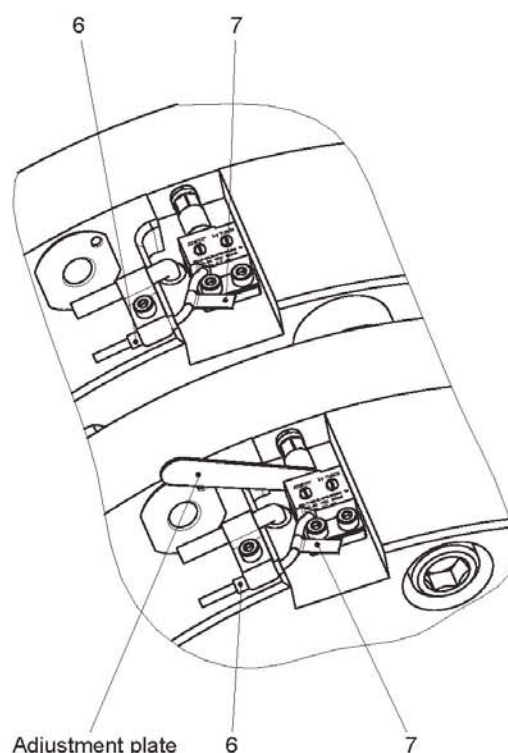

Fig. 2
1. Determine the thread diameter of the switching bolt (4).
2. Push the spring lock washer (5) onto the thread of the switching bolt (4).
3. Screw the switching bolt (4) into the armature disk (B) using a tightening torque of 3 Nm for thread diameter M5, of 1,5 Nm for thread diameter M4.
4. Apply the proximity switch (1) assembly inc. the adaptor plate lightly using two cap screws (2) via the spacer (3) so that the proximity switch (1) can still be moved.
5. See the sticker (7) on the proximity switch cable for the dimension of the adjustment plate; join the appropriate adjustment plate between the proximity switch (1) and the switching bolt (4) (Fig. 2).